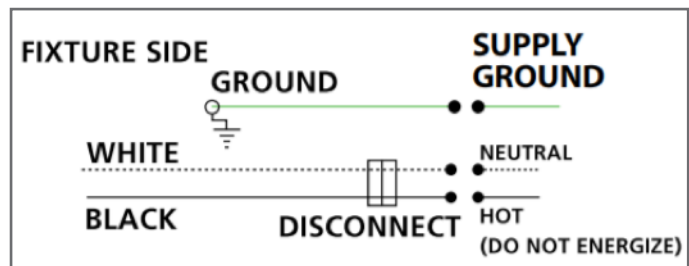
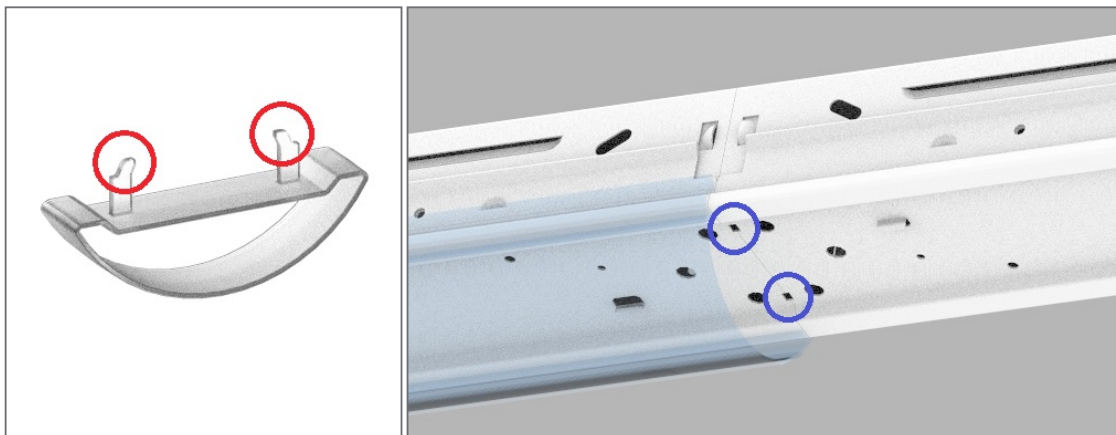
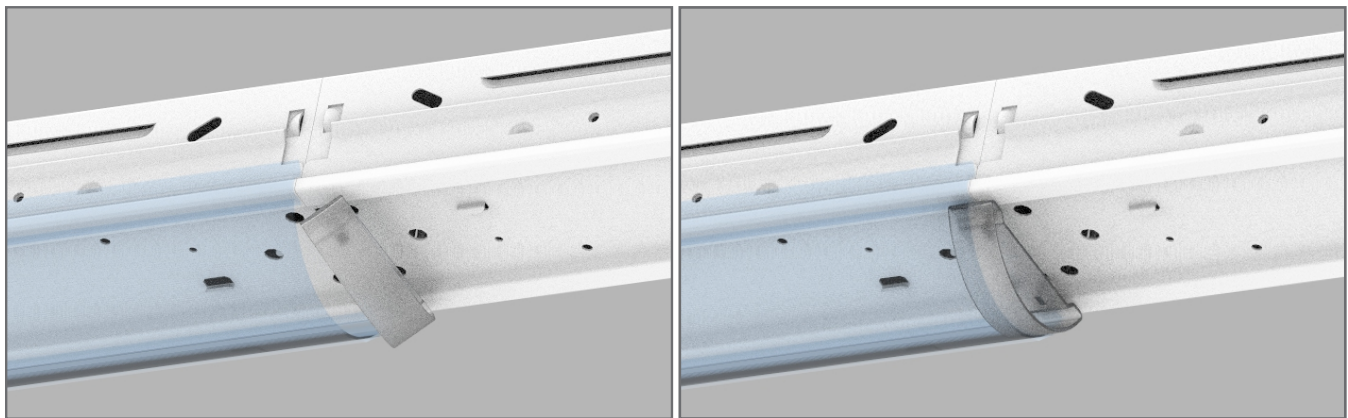

FIGURE 18
FIGURE 22
FIGURE 23
5. Route the input wires through the chosen knockout and make electrical connections according to Figure 18.
7. Insert the ends of the joiner lens's legs (circled in red Figure 22) into the cutouts of the reflector plates (circled in blue in Figure 23) and rotate the joiner piece to fit in between the outer lens and the reflector plates (Figure 18).